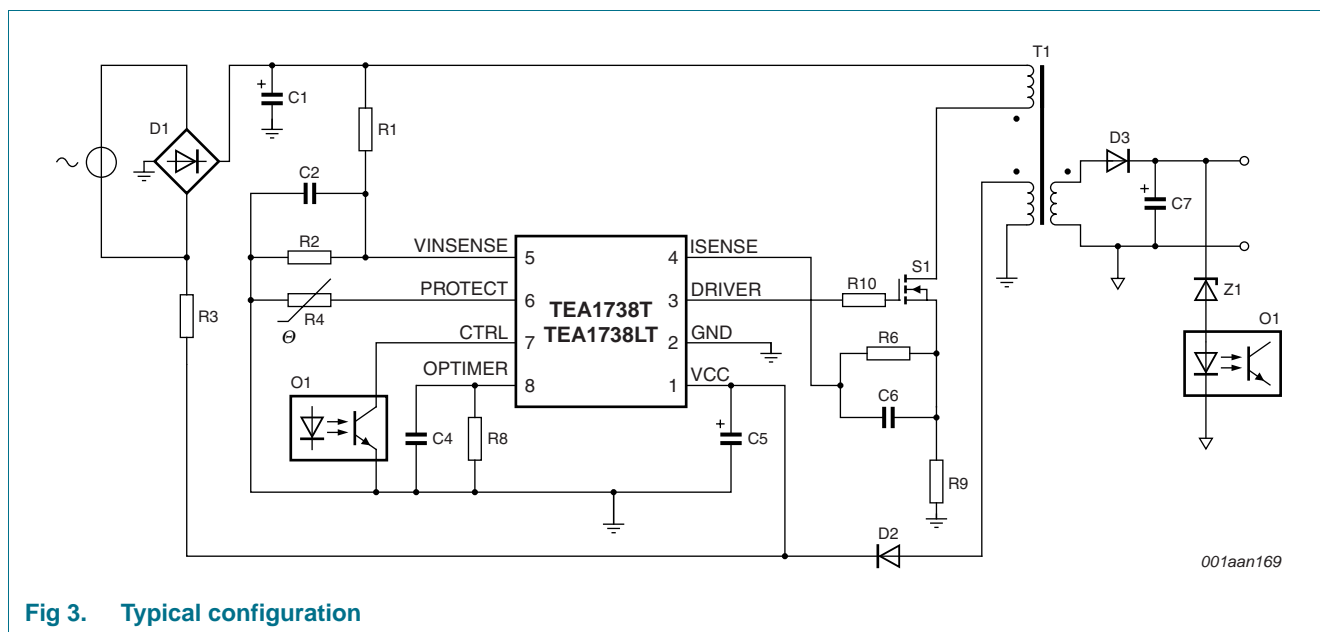
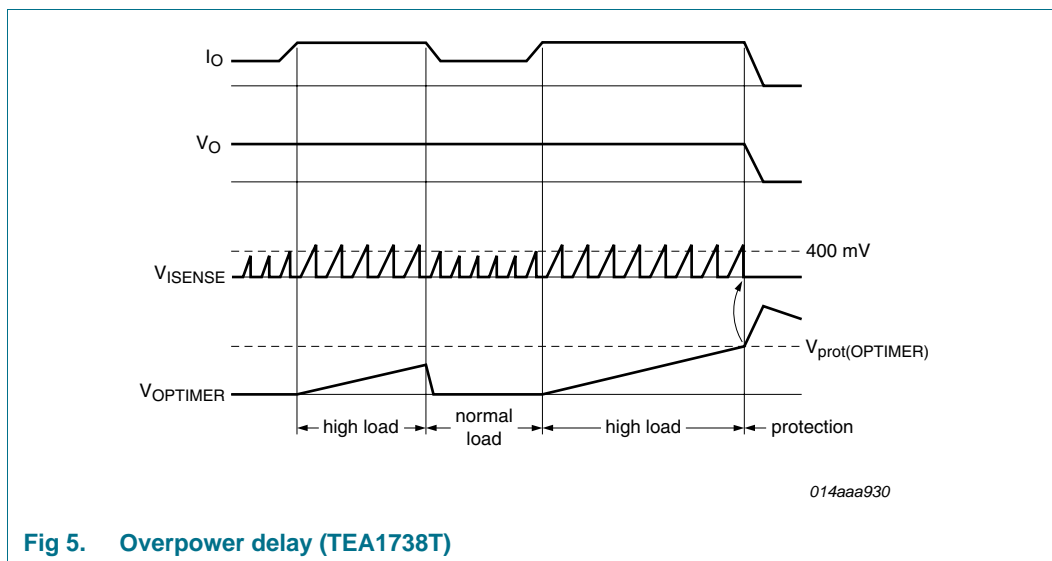
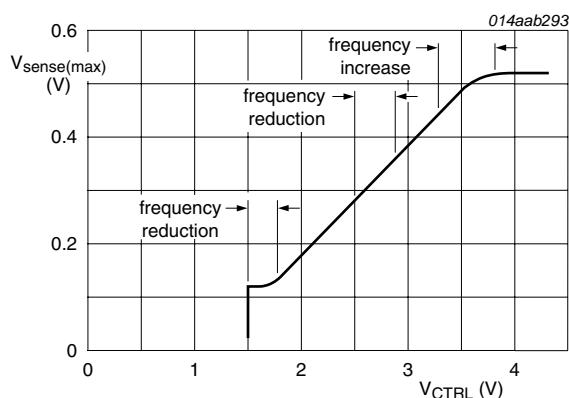

Fig 3. Typical configuration
Fig 5. Overpower delay (TEA1738T)
Fig 7. Peak current control
The TEA1738(L) contains a flyback circuit controller, a typical configuration of which is shown in Figure 3.
If the OPTIMER pin is connected to capacitor C4 (see Figure 3), a temporary overload situation is allowed. $V_{\text{ctrl(Ipeak)}}$ (see Figure 1) is set by pin CTRL. When $V_{\text{ctrl(Ipeak)}}$ is above 400 mV, the $I_{\text{IO}(\text{OPTIMER})}$ current (11 μA typical) is sourced from the OPTIMER pin. If the voltage on the OPTIMER pin reaches the $V_{\text{prot}(\text{OPTIMER})}$ voltage (2.5 V typical) the OverPower Protection (OPP) is triggered (see Figure 5).
The primary current is sensed by the ISENSE pin across external resistor R9 (see Figure 3) and compared with an internal control voltage. The internal control voltage is proportional to the CTRL pin voltage (see Figure 7).
A soft start is performed to prevent audible noise during start-up or a restart condition. Before the converter (re)starts, soft start capacitor C6 (see Figure 3) on the ISENSE pin is charged. When the converter (re)starts switching, the primary peak current slowly increases as the soft start capacitor discharges through the soft start resistor (R6, see Figure 3).
The switching frequency is increased for peak power operation. In medium power operation the switching losses are reduced by lowering the switching frequency. A second frequency reduction step is made when the output power is reduced to low power. In low power operation the converter switching frequency is reduced while the peak current is set to 25 % of the maximum peak current (see Figure 7 and Figure 10).